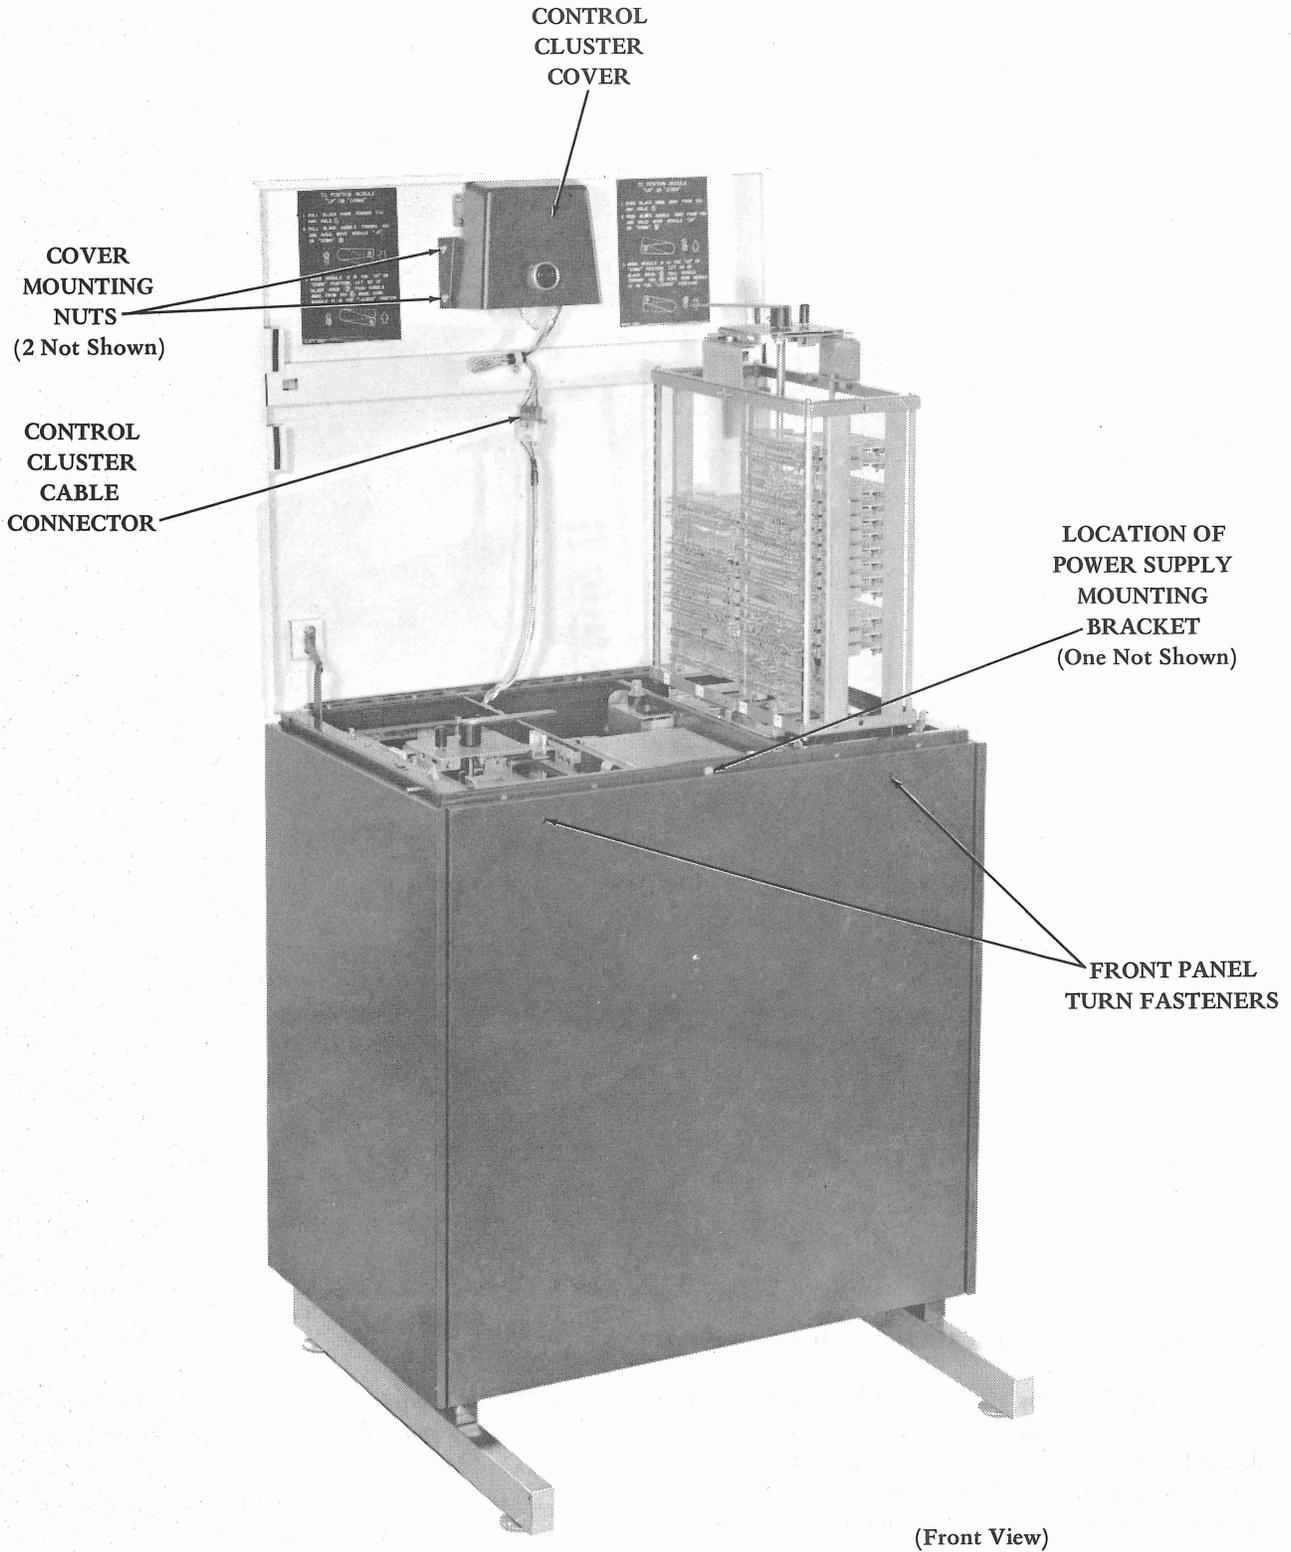

Figure 2 - Buffer Set
- (b) Turn the two TP333880 1/4-turn fasteners counterclockwise (Figure 2). The front panel can now be removed.
- (a) Remove the screw, lockwasher, and flat washer that secure each of the power supply mounting brackets to the buffer unit frame (Figure 2).
- (a) Separate the cable connector between the control cluster and the buffer module (Figure 2).
- (b) Remove the four nuts, lockwashers, and flat washers that secure the protective cover to the underside of the cabinet top (Figure 2).
- (a) Remove the snap on the protective grill (Figure 2). The grill is used only on the two lower fans.